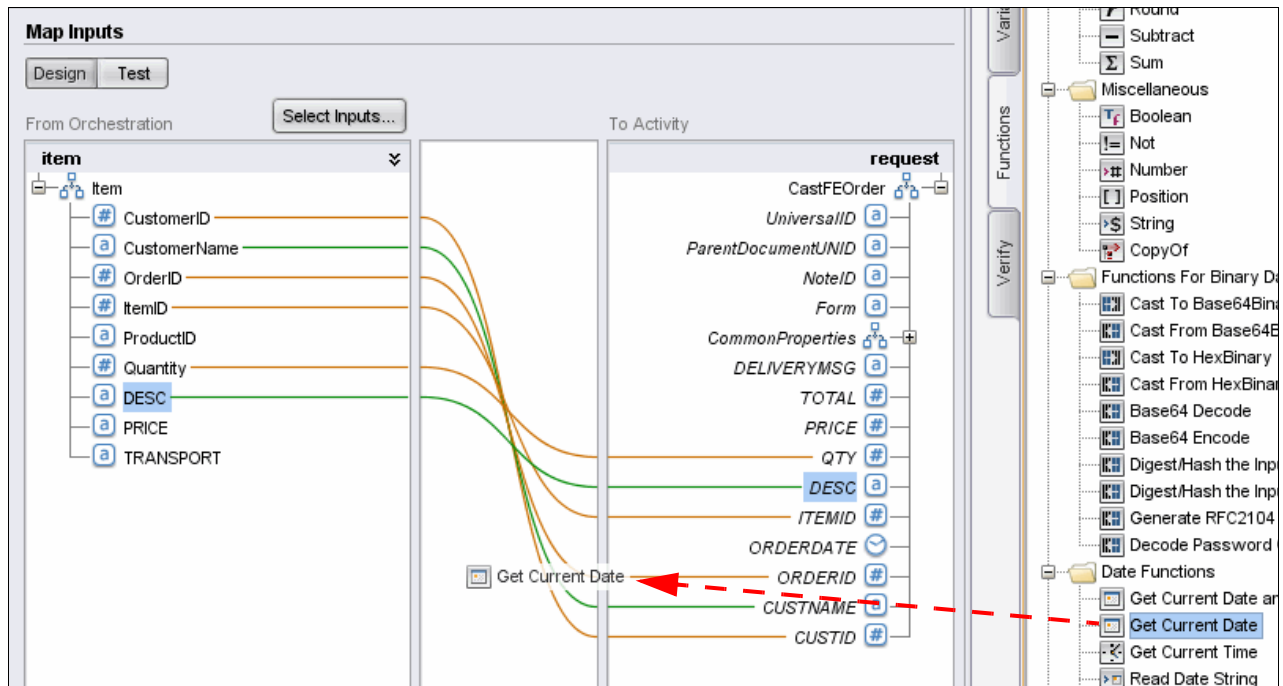

Figure 12-71 Adding Get Current Date to the mapping panel
7. Go to the Functions tab, and drag **DateTime** → **Get Current Date** to the central mapping pane. See Figure 12-71 on page 508.